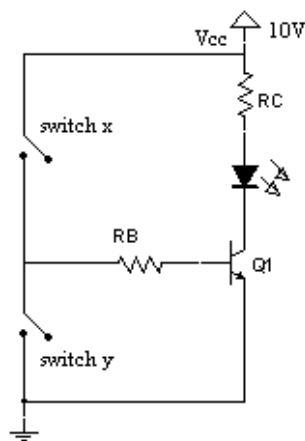

Figure 6.4
1. Connect the circuit in figure 6.4.